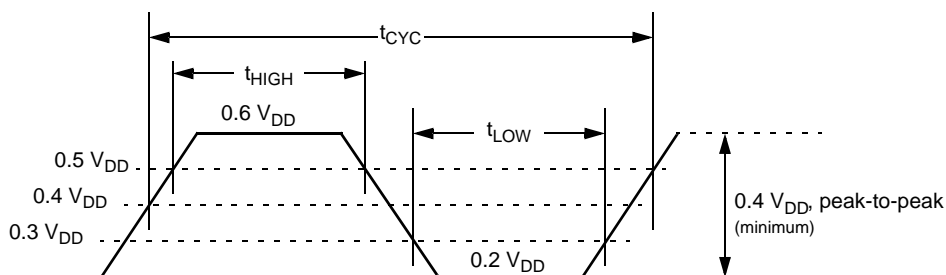

Figure 6-6. 3.3V PCICLK Waveform
5. Rise and fall times are specified in terms of the edge rate measured in V/ns. This slew rate must be met across the minimum peak-to-peak portion of the clock waveform as shown in Figure 6-6.